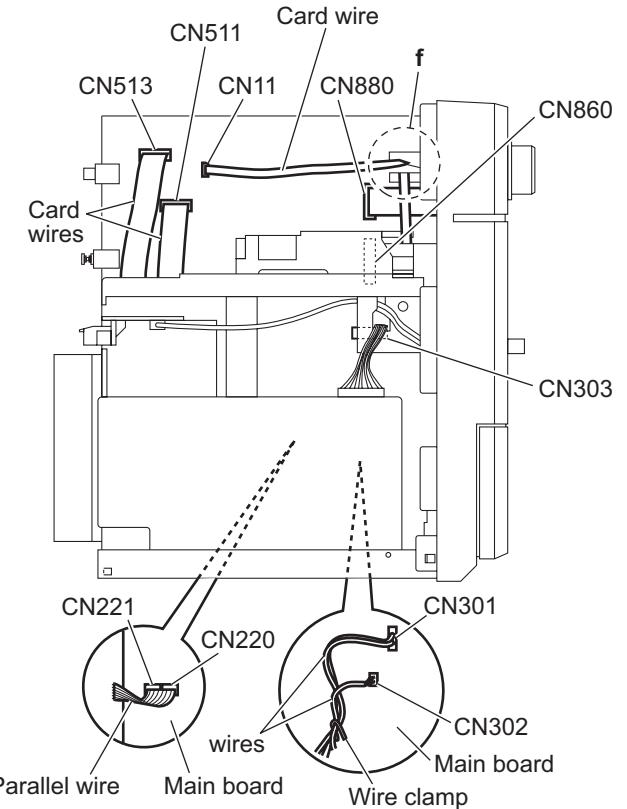

Fig.15
(4) Remove the wire clamp fixing the wires and disconnect the wires from the connector (CN301, CN302) on the forward side of the main body. (See Fig.15.)
After connecting the wires to the connectors, fix the wires with the wire clamp as before. (See Fig.15.)
(5) Disconnect the parallel wire from the connectors (CN220, CN221) on the main board. (See Fig.15.)